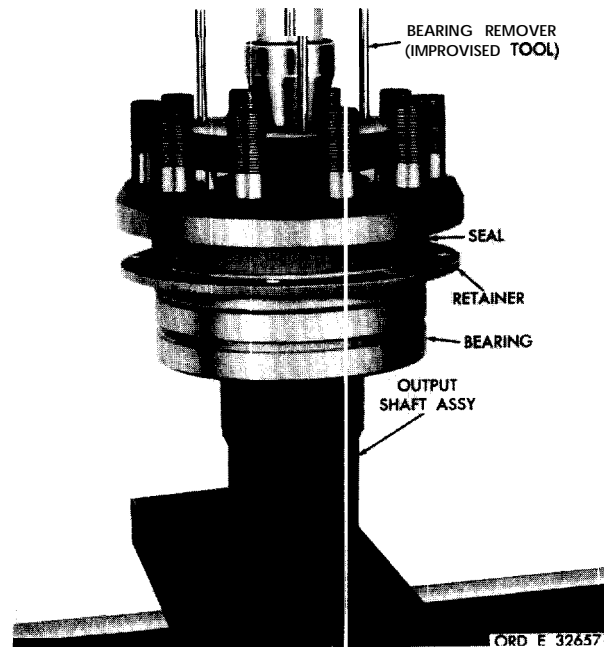

Figure 238. Removing bearing, retainer and seal from output shaft assembly
(2) Using a bearing remover, remove the output shaft bearing and related parts (fig. 238). Use the short-pin side of the special tool first, then the long-pin side, to complete the removal of the bearing.